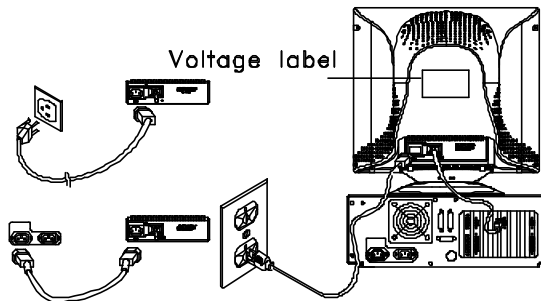

Figure 3 Connecting the Video Cable and Power Cord
2. Tighten the two screws on the cable connector. As Figure 3.
This monitor comes with a power cord. See Figure 3. Plug